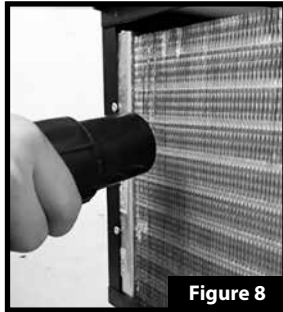

Figure 8
3. Clean the condenser with a vacuum cleaner to get rid off the dust and dirt which can block the airflow through the condenser. **“Figure 8”**.